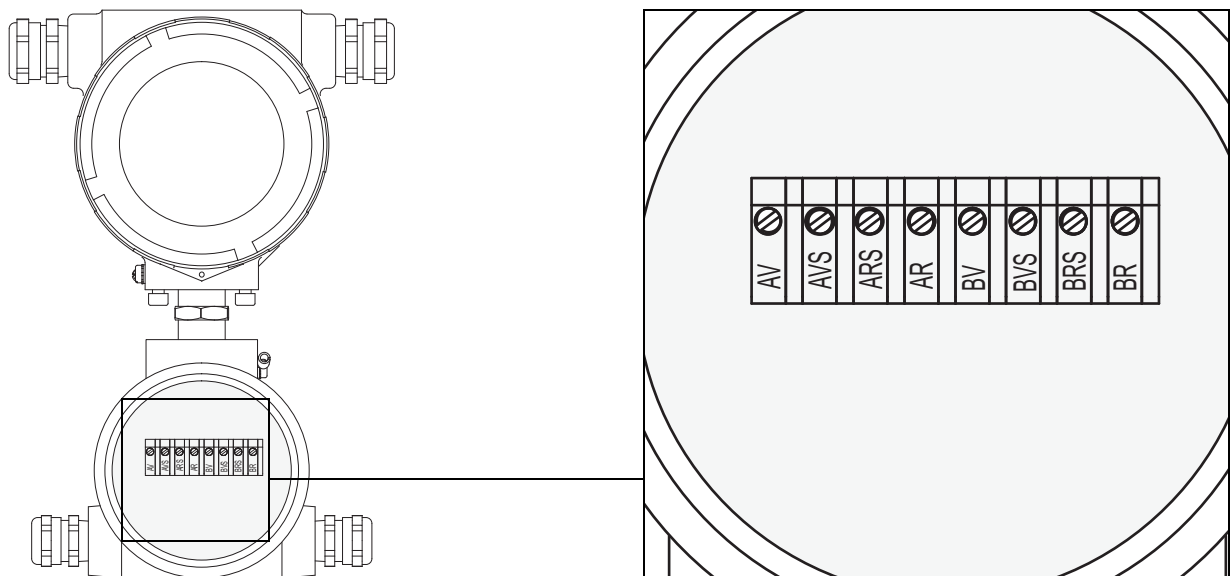
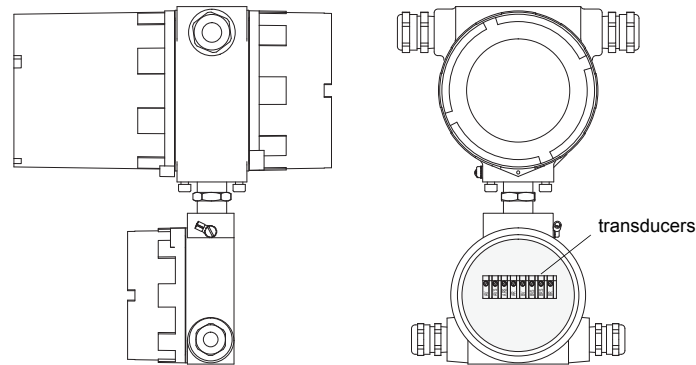

Fig. 6.4: Terminal designation of the transmitter (transducers)
Fig. 6.6: Terminals for the connection of the transducers (extension cable)
- Connect the core and the shield correctly to the terminals of the transmitter (see Fig. 6.6, Fig. 6.4 and Tab. 6.1).